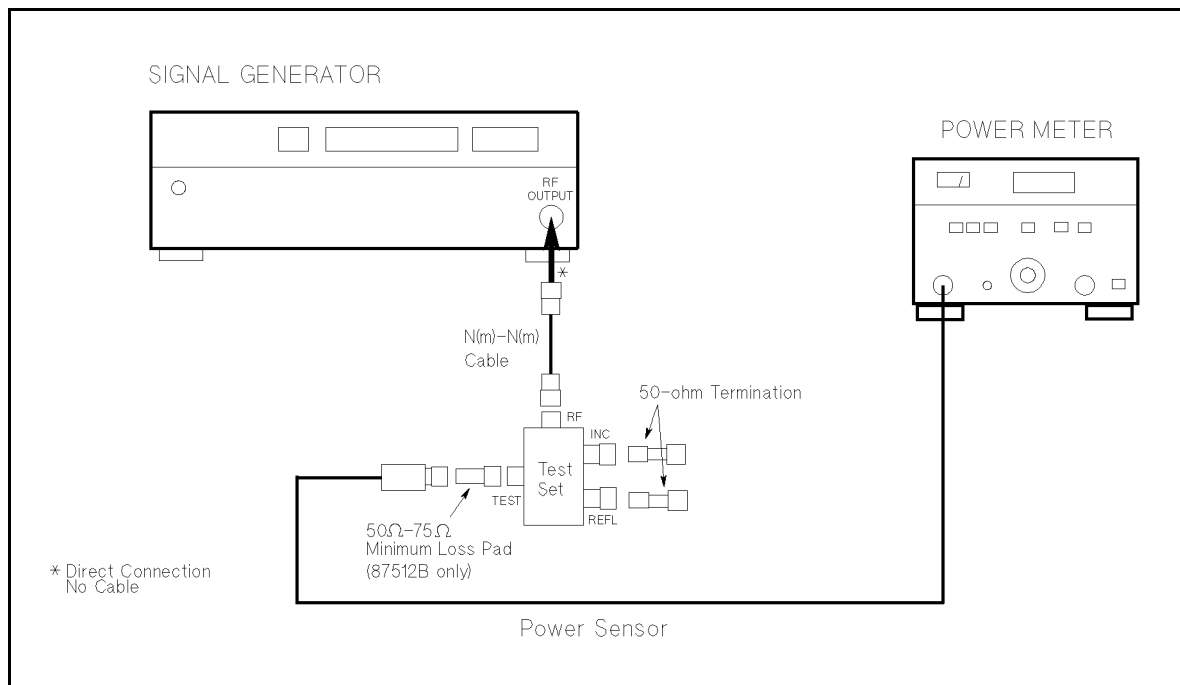

Figure 4-2. Insertion Loss Test Without an 8751A Setup
5. Connect the test equipment as shown in Figure 4-2.